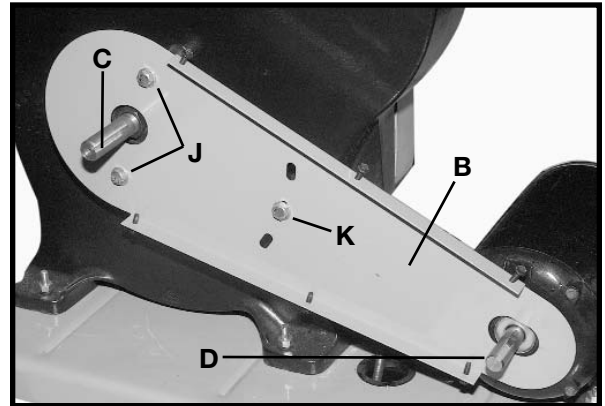
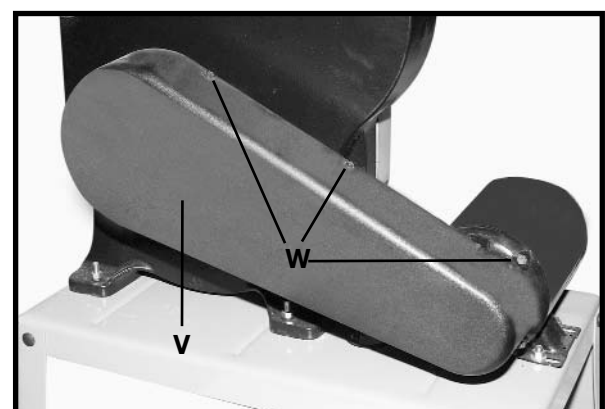

Fig. 12
Fig. 16
4. **NOTE:** Center the arbor shaft (C) Fig. 12 and the motor shaft (D) in the holes of the belt and pulley guard (B). Tighten the screws (J) and (K).
8. Attach the outer belt and pulley guard (V) Fig. 16 to the inside belt and pulley guard (B) Fig. 12. Tighten the six screws, three of which are shown at (W) Fig. 16.